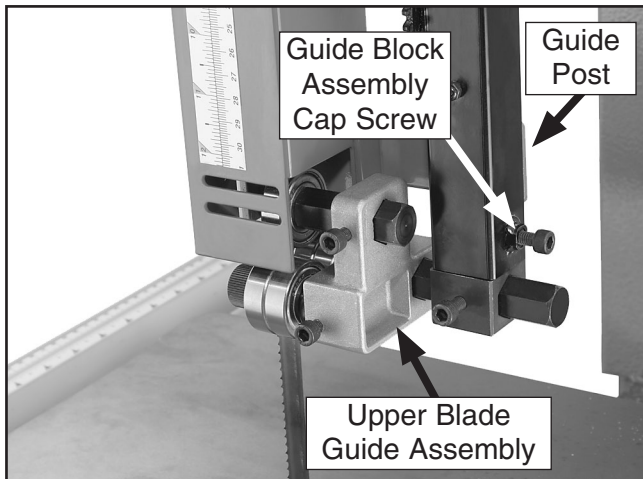

Figure 4. Upper blade guide assembly installed.
- Slide the upper blade assembly over the blade and up into the guide post, then tighten the guide block assembly cap screw (see **Figure 4**).